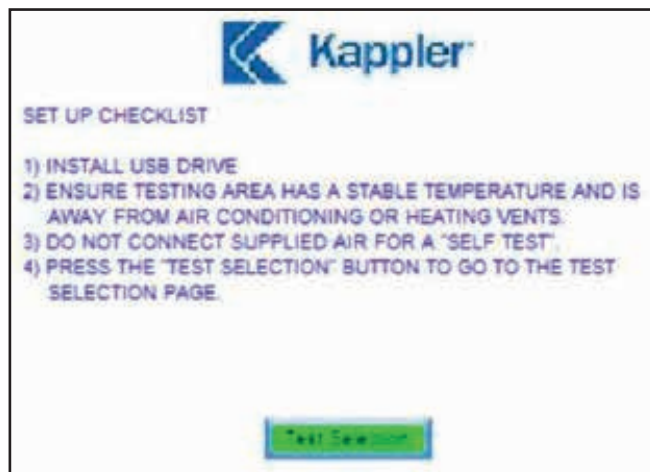

Figure 3: Set Up Page
2. Ensure there is no residual pressure in the test kit by using your finger to press the white inner tube of the Male Quick Disconnect Fitting (G) and releasing any stored air.
3. Locate the power supply cord (Part E) and insert into the AC receptacle (L) on the test kit face. Connect the power supply cord to a 110 volt power source. Use of this kit outside the United States will require special adapters and/or converters.
4. Connect the two supplied air hoses (Part D) together by attaching one male quick disconnect to one female quick disconnect and then connecting the other ends to the male quick disconnect fittings (F) mounted on the top center of the test kit face plate. To ensure adequate air flow, drape the hoses over the lid, so they stay as straight as possible.
5. Attach the female quick disconnect on the self-test aspirator (Part B) to the male quick disconnect (G) located on the face plate adjacent to the other quick disconnect fittings. Close the thumb screw on the aspirator.
6. Turn test kit on with power switch (L). Wait until the test kit program has loaded and the Touch Screen (J) shows the Set-up Page (Figure 3). Insert USB drive into the USB port (K). Note: It will take a few moments for the drive to connect with the software.
2. Locate the power supply cord (Part E) and insert into the AC receptacle (L) on the test kit face. Connect the power supply cord to a 110 volt power source. Do not turn on the power to the test kit at this time. (Use of this kit outside the United States will require special adapters and/or converters.)
3. The user must supply a suitable quick disconnect fitting, that is compatible with their air supply system, and install the fitting into the supplied air fitting connection (I) located on the upper right of the test kit face. Use thread sealant or sealing tape on the fitting threads to ensure proper seal. If sealing tape is used, insure none is over the end of the male fitting.
5. Turn on the test kit with power switch (L) and wait until the test kit program has loaded and the Touch Screen (J) shows the Set-up Page (Figure 3, page 8). Insert USB drive into USB port (K). Note: It will take a few moments for the USB drive to connect with the software.